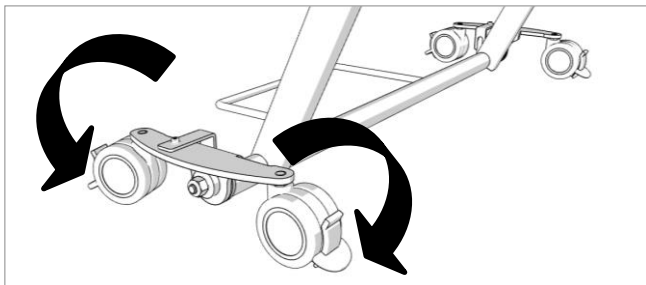

Figure 13.1
1. To lock the castor, press or step onto the lower part of the brake lever as indicated in Figure 13.1 until the lever locates in the new position.